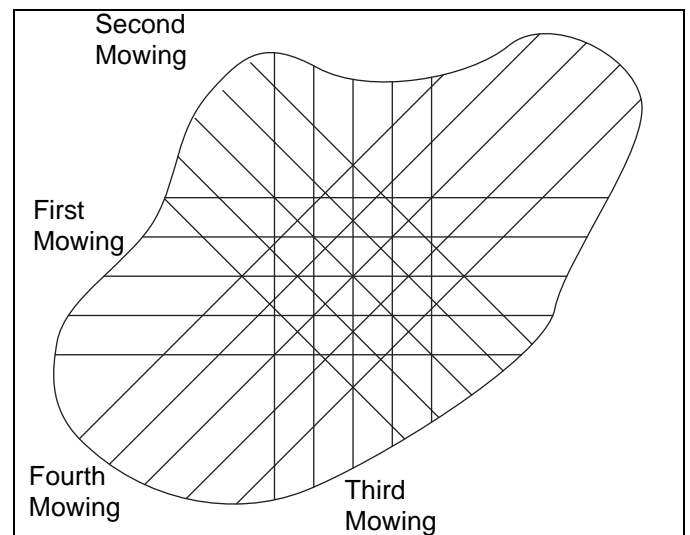

Figure 5D
5. For a more even playing surface and neater appearance, alter the mowing pattern each time a green is mowed. The patterns shown in **Figure 5D** are suggestions only, the operator or course superintendent can arrange patterns to suit each green.